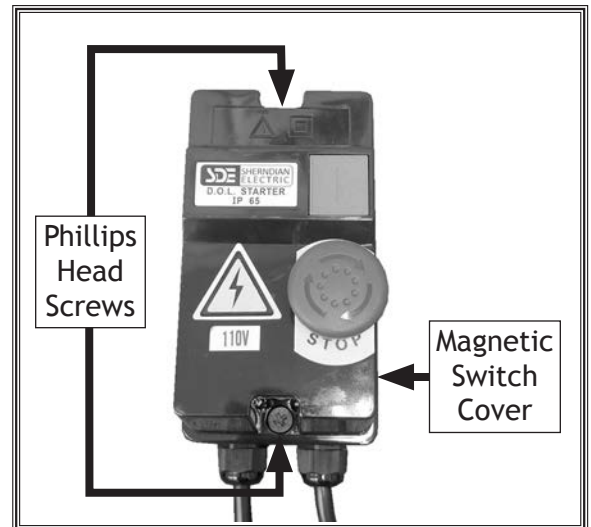

Figure 28. Magnetic switch cover.
30. Loosen (2) Phillips head screws and remove magnetic switch cover (see **Figure 28**).